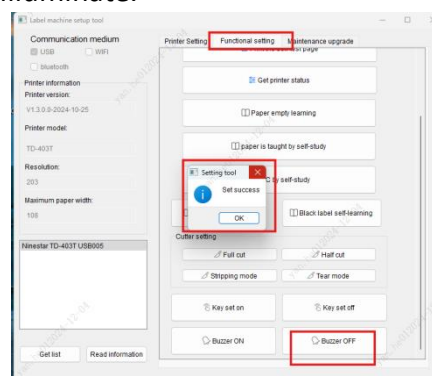

Fig.60
(14)Buzzer OFF:Select "Buzzer OFF" a "Set success" prompt box will appear (shown in Fig.60), the buzzer function is disabled, and during an alarm, there will be no buzzer sound, only the light will illuminate.